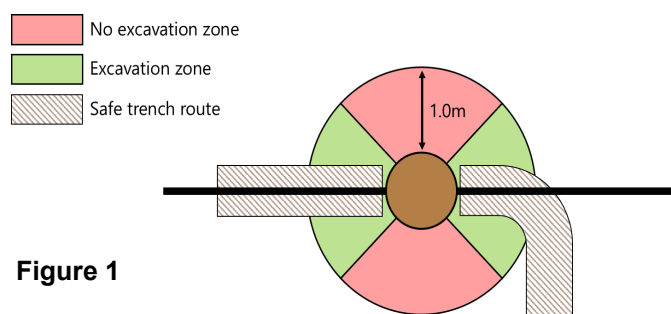

Figure 1
- A safe route for the trench is established (see Figure 1).